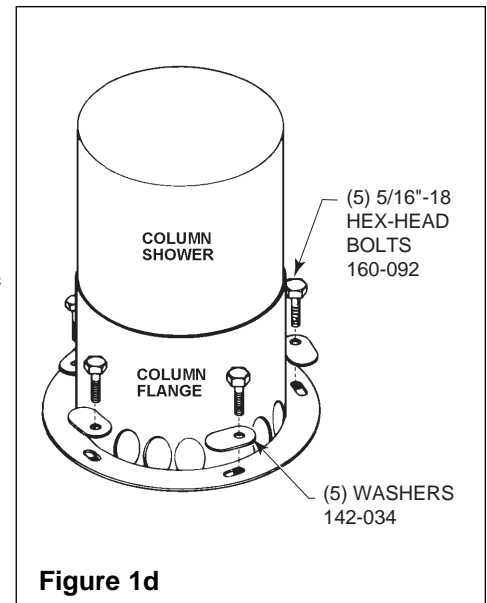

Figure 1d
2. Bolt the shower to the drain with the five bolts (removed in procedure #1) and oval washers provided (see Figure 1d).